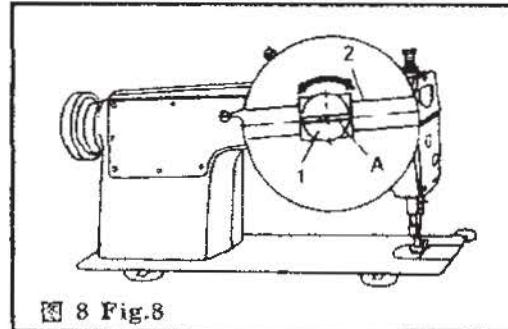

图 8 Fig.8
b. 调节面部油量（图 8）
b. Adjusting the amount of oil supplied in the front of head(Fig.8):